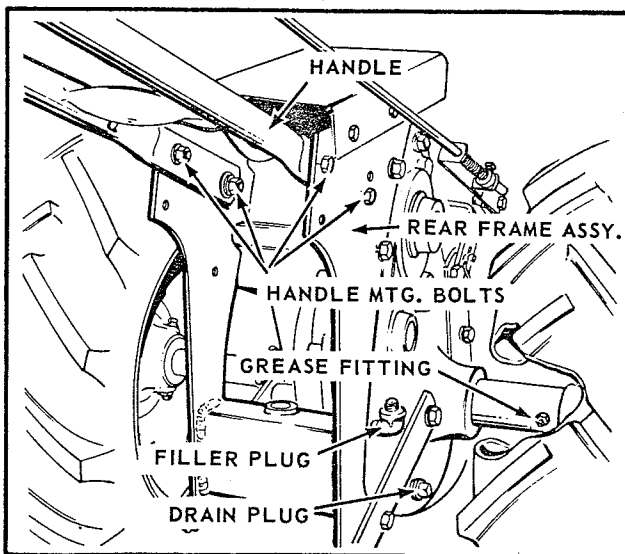

Fig. 1
1. The tractor handles attach to the rear frame assembly of the tractor as shown in figure 1. Place the tractor handles inside of the rear frame assembly, line up the holes in the tractor frame with the holes in the handle assembly and insert hex head capscrews. The two front capscrews are held in place with a flat washer, lockwasher, and hex nut. The rear capscrews are held in place with a lockwasher and hex nut. NOTE: the end holes of the handle assembly are slotted to allow for adjustment of handle height.